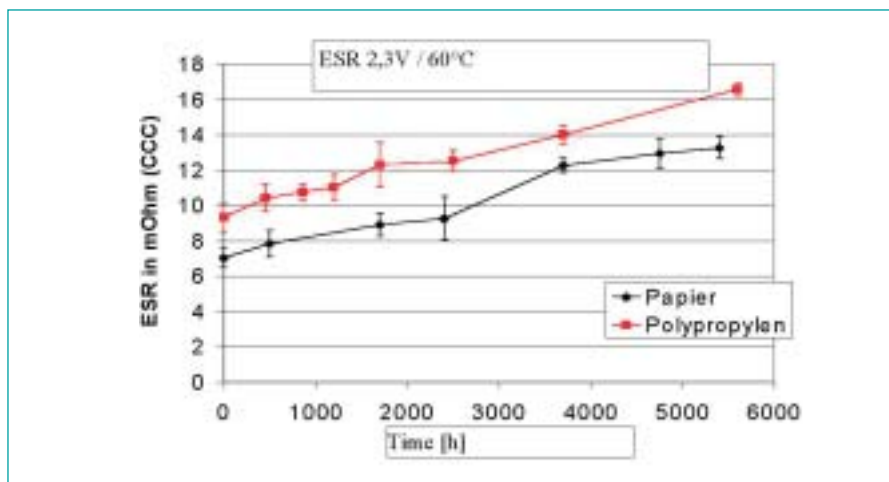

Figure 3. ESR changes of a 120 F capacitor with paper- and Polypropylen – separator.
To avoid that microscopically small carbon particles detach from the electrodes and attach to the separator and thus create small conductive paths there, in these capacitors, oriented Polypropylene (PP) films are used as separator. For reasons of cost-effectiveness, we tested the suitability of high-density papers on the basis of synthetic cellulose, too. Figure 3 shows the results of an appropriate long-term test at 60°C and at rated voltage for 120F capacitors. The use of paper separators decreased the ESR by approx. 10% and slowed-down the ESR increase. The higher porosity of paper which allows a larger amount of electrolyte to be stored in each separator volume unit might serve as an explanation for this effect.